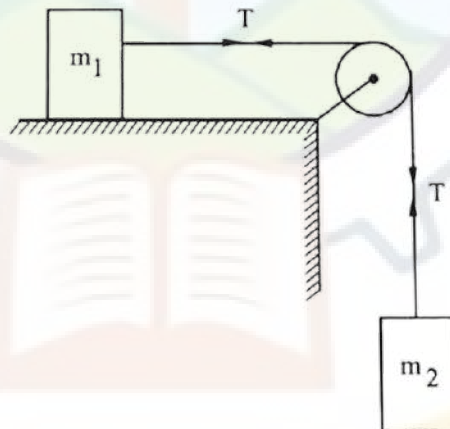

Figure 12
- (b) A block of mass 80 kg rests on a horizontal plane as shown in Figure 12. Find the magnitude of force P required to give the block an acceleration of $a = 4 \text{ m/s}^2$ to the right. The coefficient of friction between the block and the plane is 0.30. (7 marks)